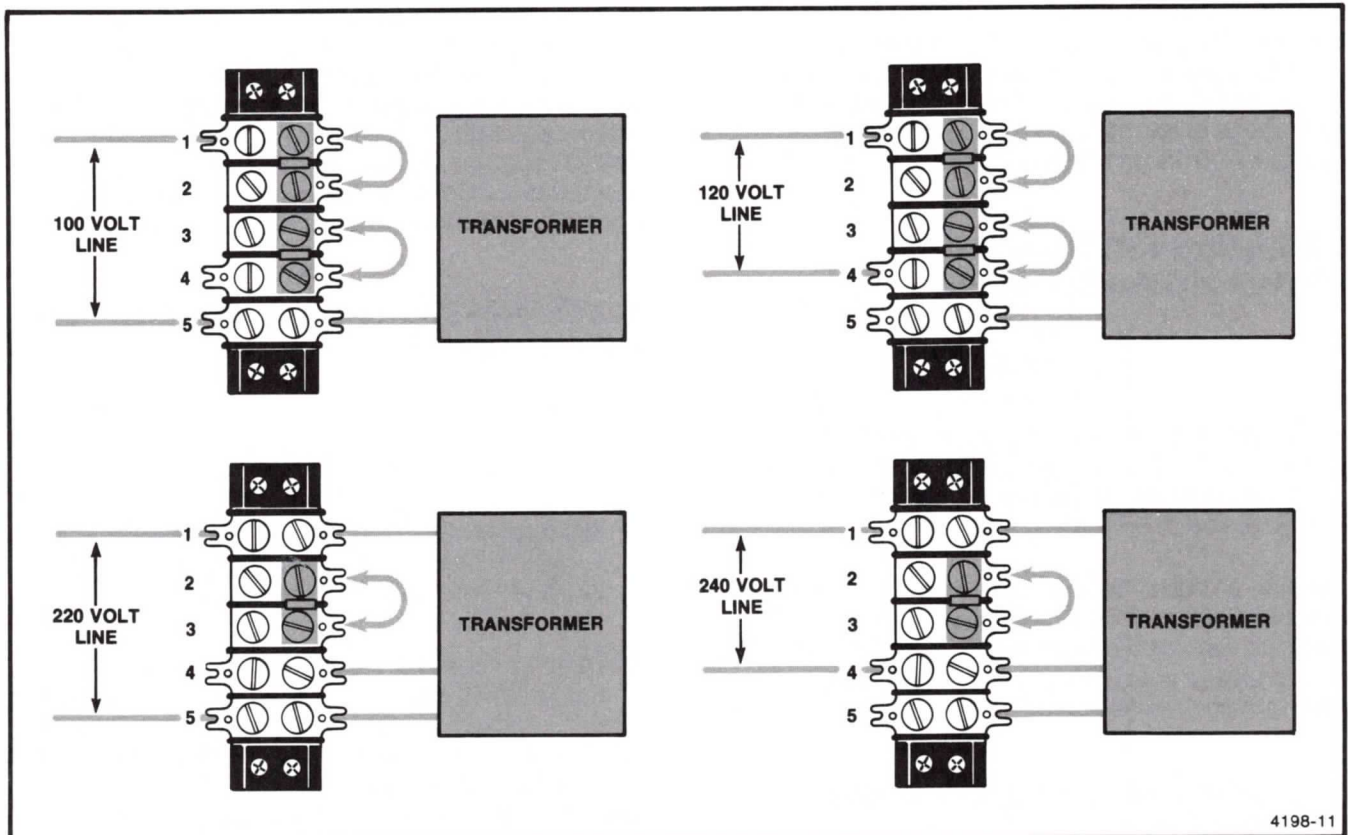

Figure 3-3. Five Terminal Barrier Strip Wiring and Jumper Positions for Line Voltage Selection.
2. Connect or change the straps on the five-terminal barrier strip to conform to the desired line voltage using the illustration in Figure 3-3 as a guide.